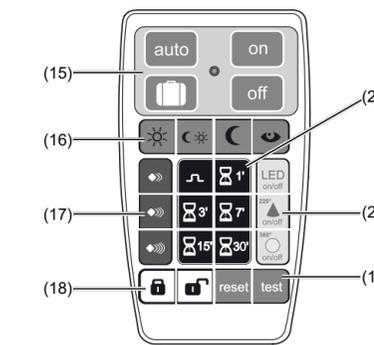

Fig. 10: Button assignment on the IR remote control
If the remote control is locked, no IR signals are transmitted when the buttons are pressed. The exceptions to this are the operation buttons (Fig. 10, 15) and the locking buttons (18). These are always active.